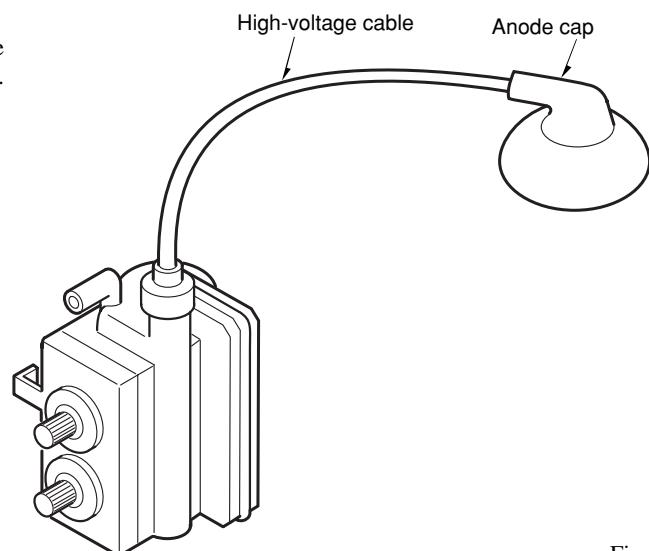

Figure 3-3
(3) Eliminate twisting, etc. of the high-voltage cable and arrange it so that no twisting occurs. (See Figure 3-3)